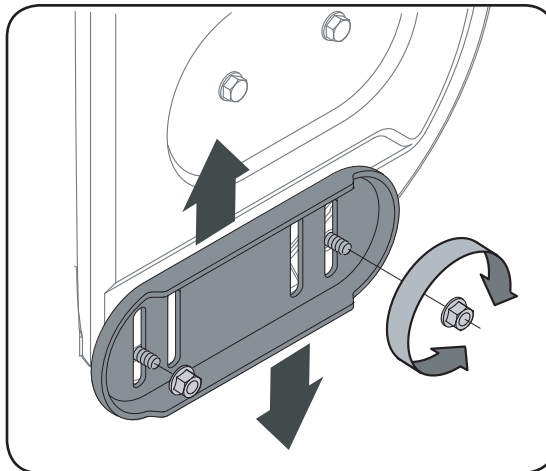

Figure 5-5 - Reversible Skid Shoe
**NOTE:** Some models are equipped with heavy duty skid shoes and may be turned over to increase their lifespan. See Figure 5-5. If shoes are turned they must also change sides to ensure the "A" on the shoe is towards the front of the unit.